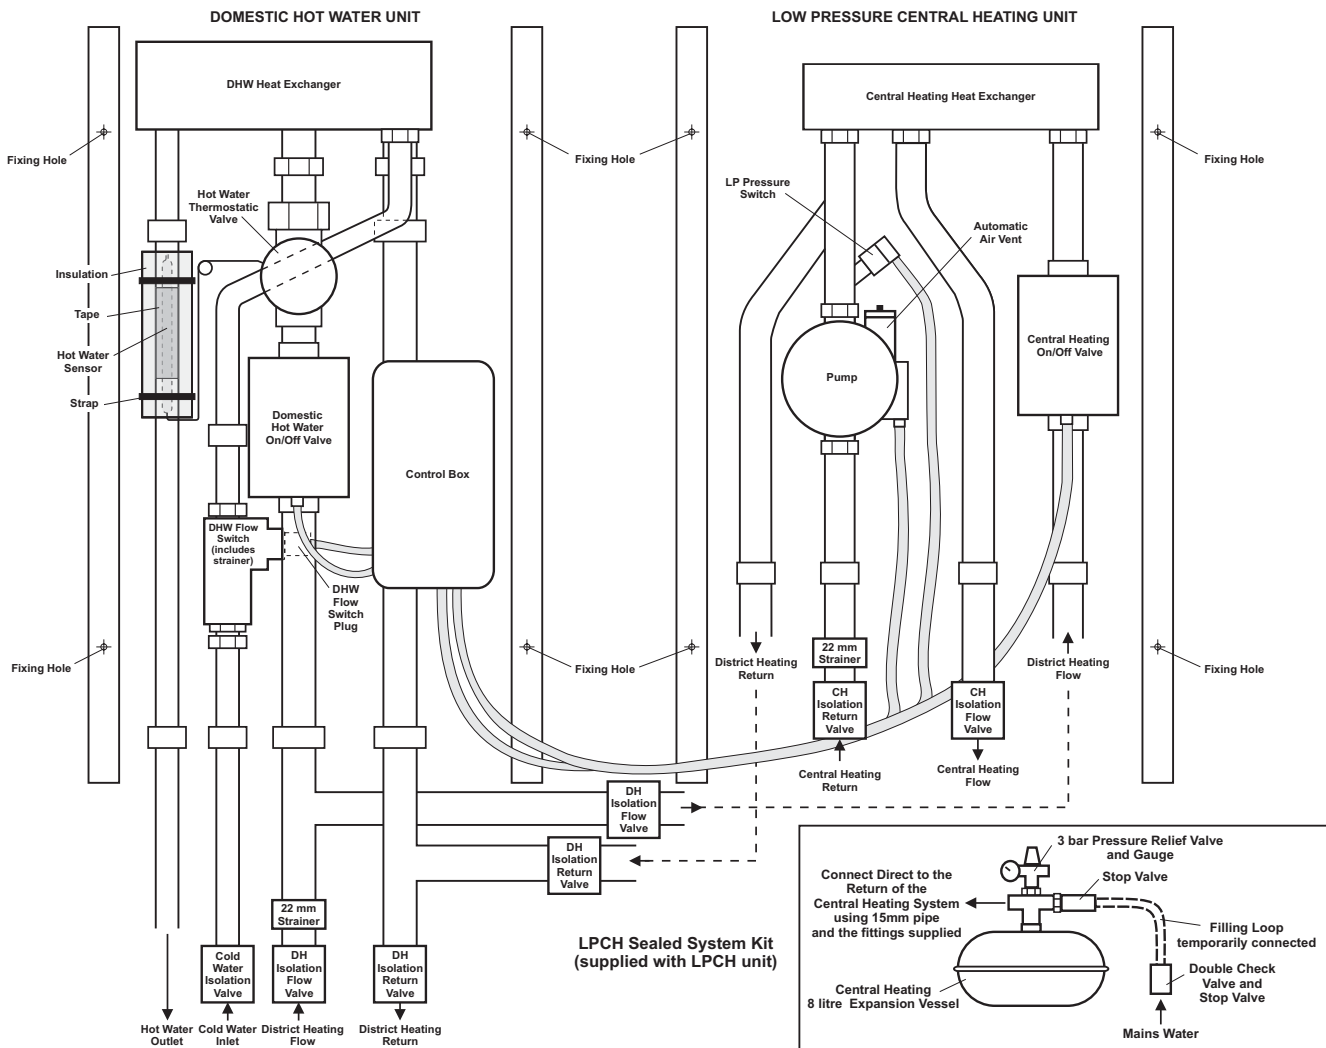

Fig. 3 Low Pressure Central Heating
- 3 Refer to the Fig. 3 or 4 for the layout and location of the unit(s).
4.4 CONNECT THE PIPEWORK - See Fig. 3 or 4
- 3 Using 'T' connections, connect the district heating flow and return connections to the domestic hot water unit as shown in Fig. 3 or 4.
If a low pressure central heating unit is used - fit it in position as shown in Fig. 3 and described in Sections 4.2 and 4.3. Fit two of the 22 mm isolation valves between the units.